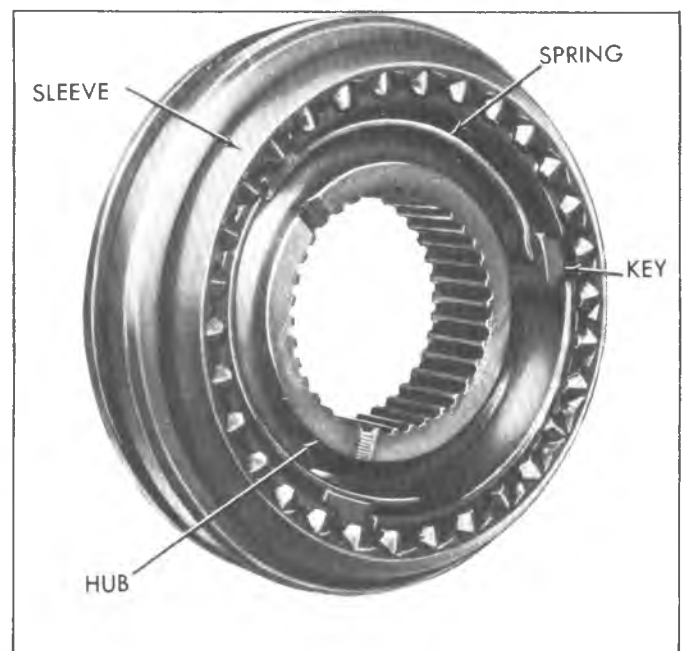

Fig. 4A--Synchronizer Assembly
3. Place the three keys and two springs in position (one on each side of hub), so all three keys are engaged by both springs (fig. 4A). The tanged end of each synchronizer spring should be installed into